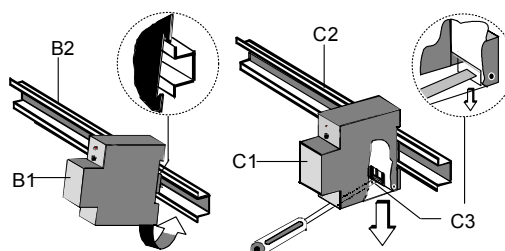

figure 3: Mounting and unmounting a DIN rail mounted device
Mounting DIN-rail devices (Figure 3)
- Slide the device (figure 3, B1) onto the DIN-rail (figure 3, B2) and
- swivel back the device (figure 3, B1) until the slide clicks into place audibly.
- press down the slide (figure 3, C3) with a screw-driver and
- swivel the device (figure 3, C1) from the DIN-rail (figure 3, C2).